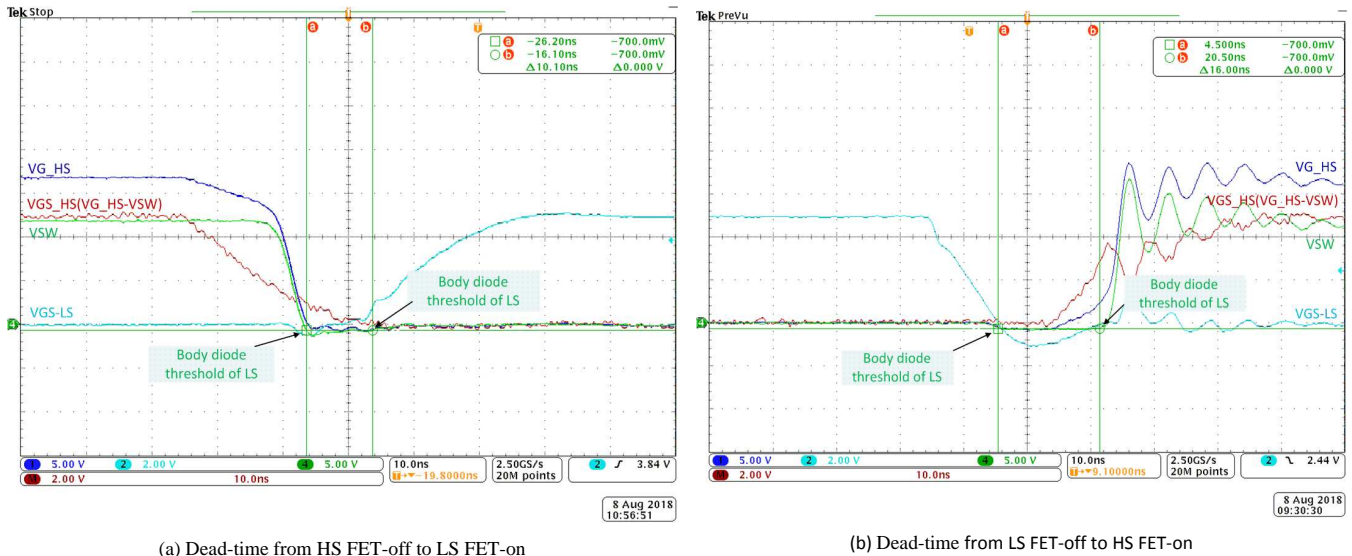

Figure 10. Dead-time Measurement for LS FET Body Diode Conduction
- Cursors locate at conduction time of LS FET body diode, generally it is -700 mV , Dead-time from HS FET-off to LS FET-on is 10.1 ns and from LS FET-off to HS FET-on is 16 ns (See Figure 10)